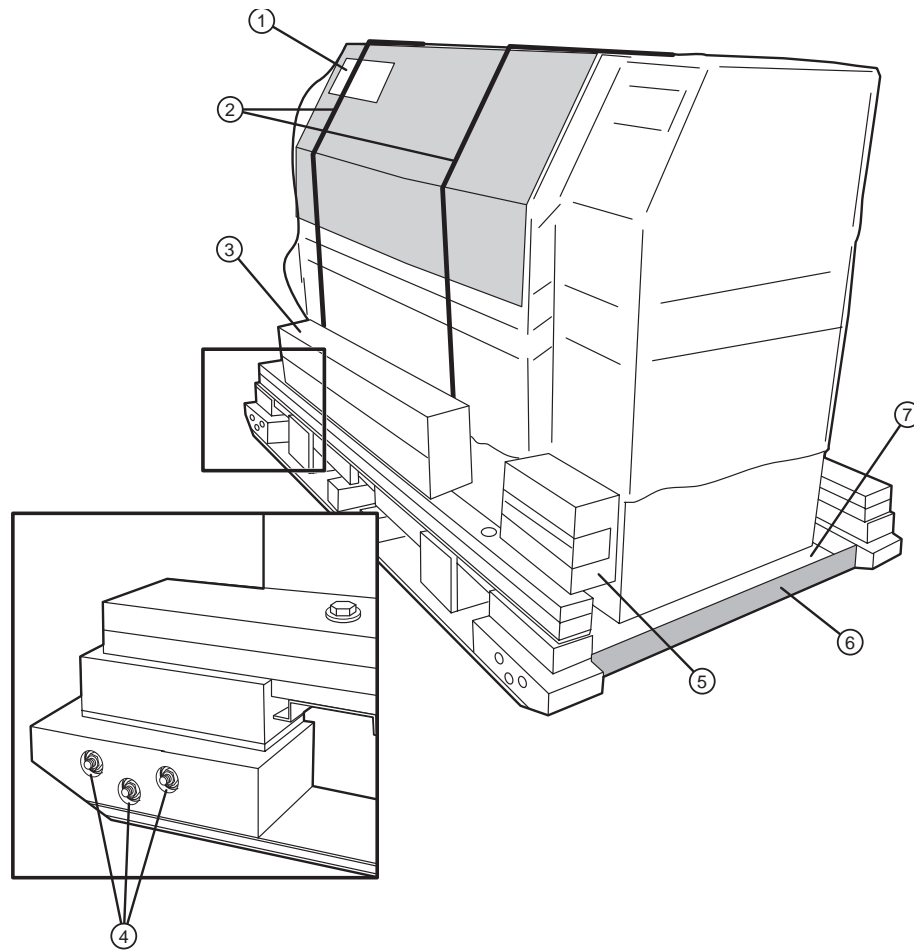
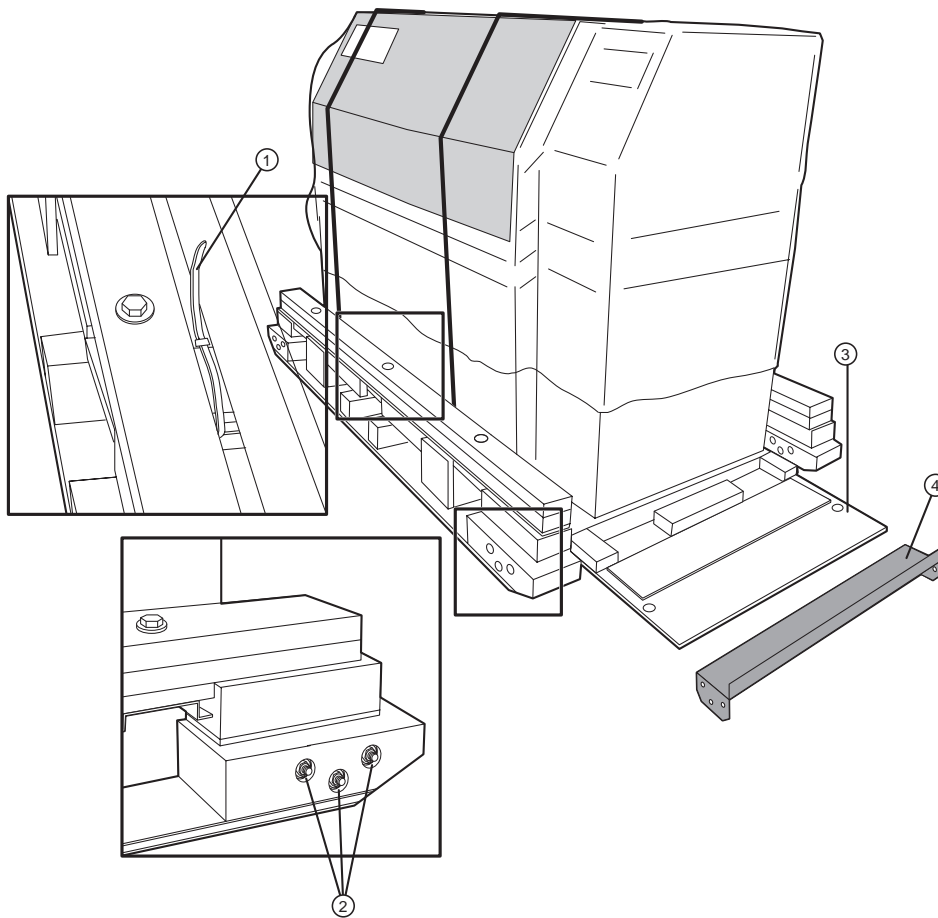

Figure 1-3 Preparing to remove the plates, diapers and skis.
Figure 1-4 Removing the diaper and end plates.
- ①—Shipping straps. ②—Top pad. ③—Spring clips or bolts.
④—Shipping bolts (2 on each side). ⑤—Two crossbars.
6. Remove the parts list and accessory box. Refer to Figure 1-3. Put the accessory box aside for the unlocking and installing procedures.
7. Remove the three (3) bolts at each corner of the end supports. Refer to Figure 1-3.
8. Remove the end plates, one at each end. Refer to Figure 1-3 and Figure 1-4.
- ①—Parts list package. ②—Shipping straps. ③—Accessory box.
- ④—End support bolts with washers. ⑤—Tool kit. ⑥—End plate. ⑦—Diaper.
9. Cut the two (2) large tie wraps at the center channel, front and back. Refer to Figure 1-4.
10. Remove the bottom diaper by sliding it out from either side of the pallet. Refer to Figure 1-4.